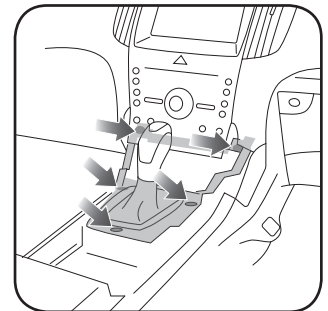

Fig. 1.4
4. Remove five (5) 7mm screws holding the shifter housing. Unclip and pull it backward. Do not remove it. (Fig. 1.4)